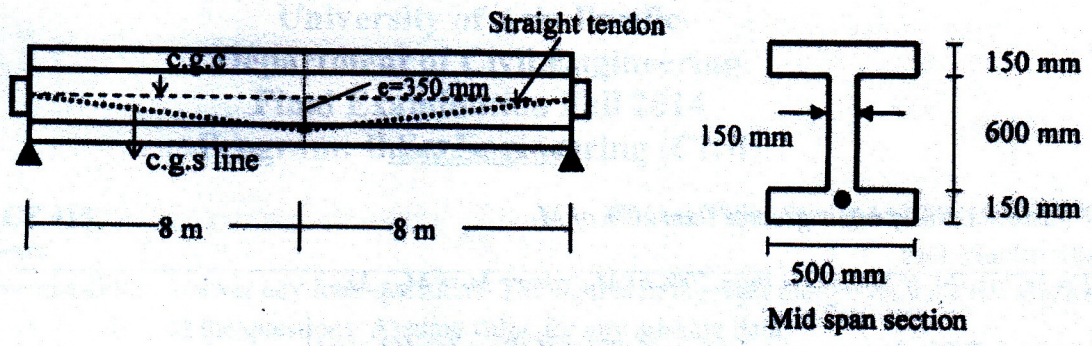

Figure: 4
5. (a) Calculate the mid-span deflection of a 16 m span I-beam as shown in **Figure: 4** (20)